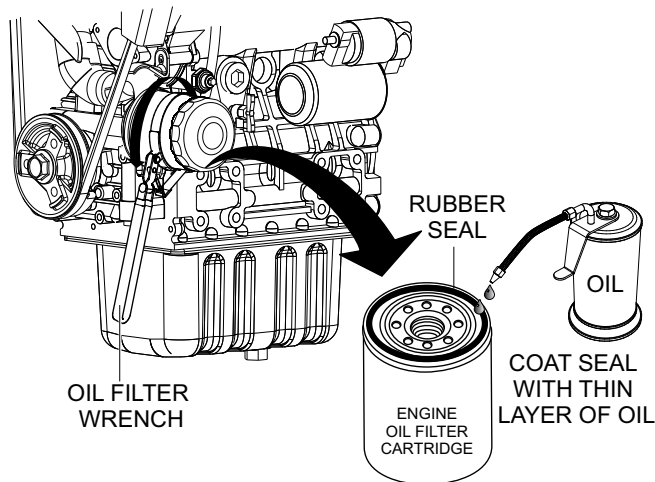

Figure 55. Engine Oil Filter Removal
2. Using an oil filter wrench (Figure 55), remove engine oil filter.
3. Coat the rubber seal (gasket) surface of oil filter (Figure 55) with clean 15W-40 engine oil.